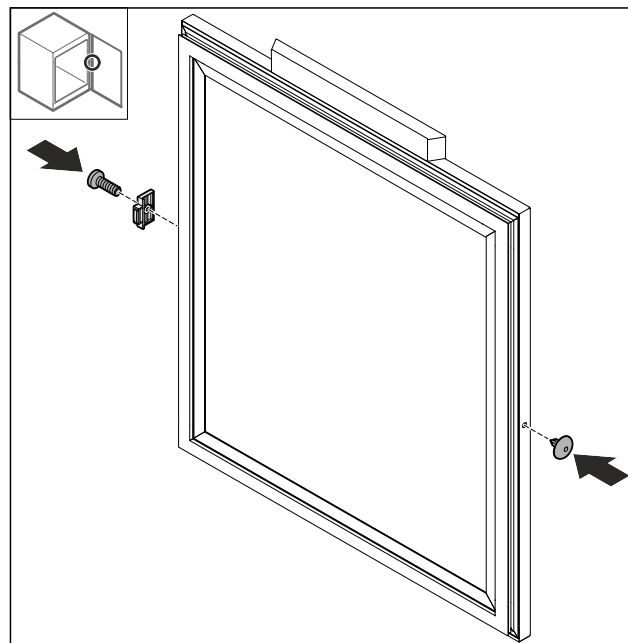

Fig. 48
- Mount the door stopper Fig. 48 (1) turned by 180° on the opposite side.
- Insert the cover Fig. 48 (2) on the opposite side.